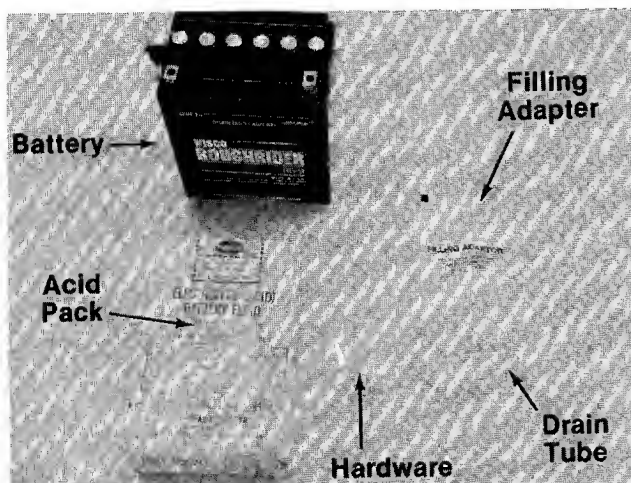

FIGURE 6.
1. Upon opening the battery pack, you should receive acid pack, battery, drain tube, filling adapter and hardware. See figure 6.